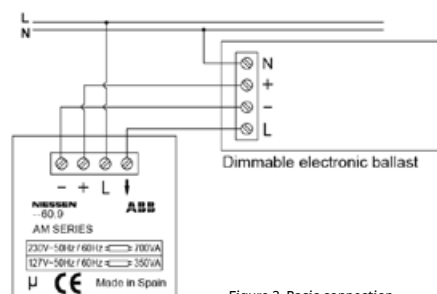
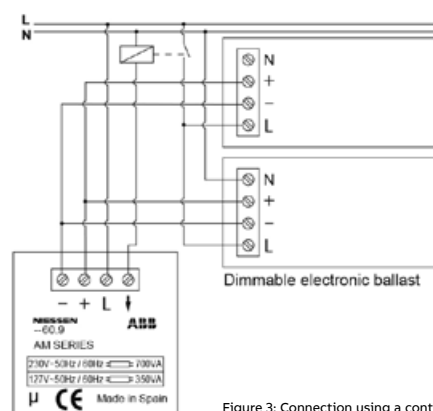

Figure 2: Basic connection
Figure 3: Connection using a contactor
1. Connect the device according to the connection schemes. Figure 2 and Figure 3.
The fluorescent lighting dimmer N2260.9 may be connected to dimmable electronic ballasts with a control input of 1-10 V as shown in Figure 2:
In installations where it is required to connect more than 6 electronic ballasts to the same regulator mechanism, it is recommended to use a contactor to protect the mechanism contacts. See Figure 3.